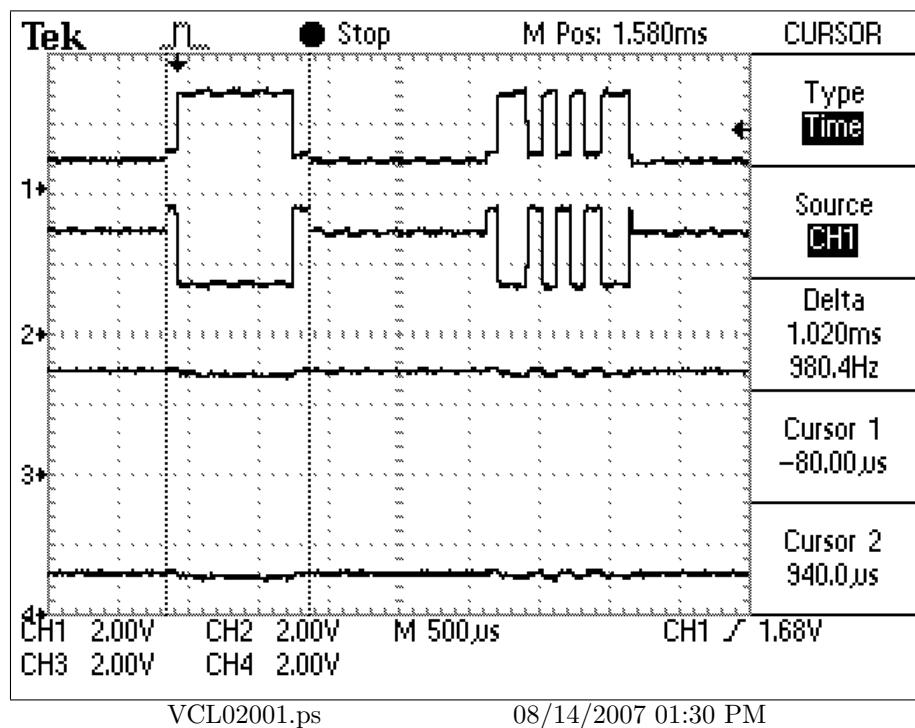
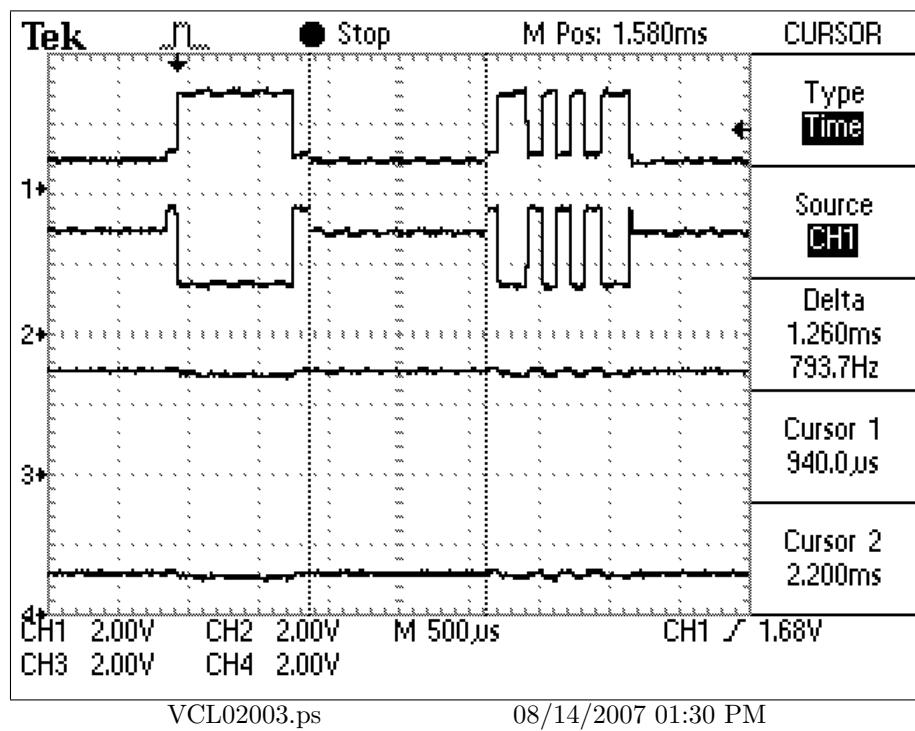
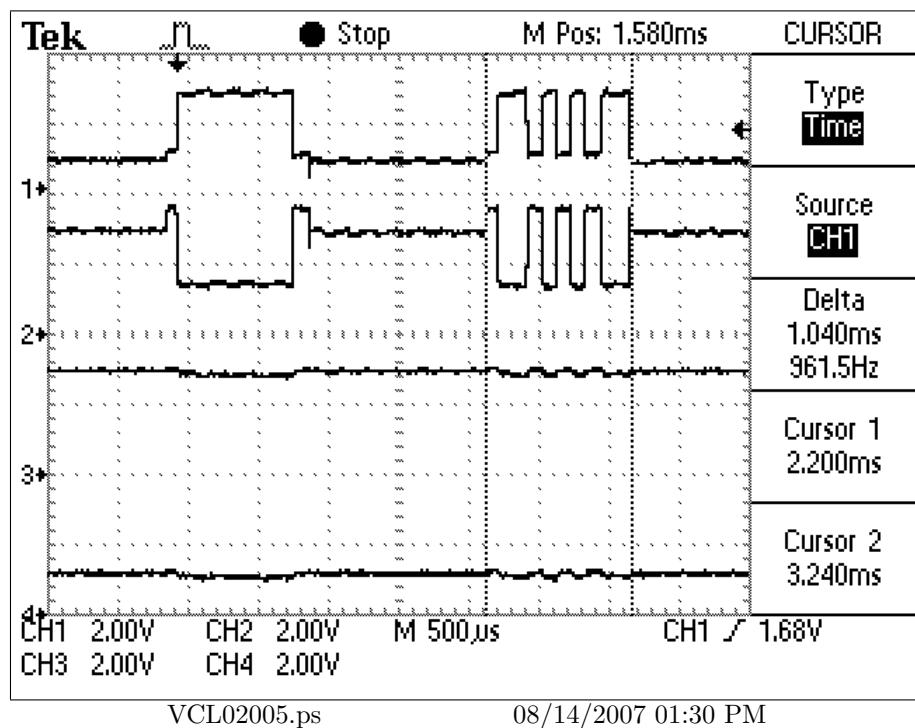

Figure 3: Duration of the first byte 0x80 of a CW end command [capture2:byte1]
Figure 4: Duration of the gap between both command bytes [capture2:gap]
Figure 5: Duration of the second byte 0x2A of a CW end command [capture2:byte2]
2. In Figure 3, page 9, Figure 4, page 10 and Figure 5, page 11 are more details of the command timing.